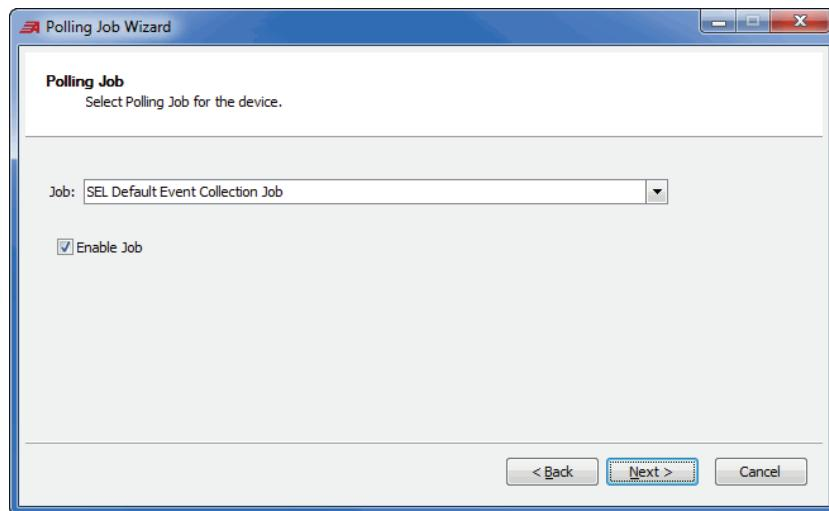

Figure 95 Polling Job Wizard
- Step 11. In the **Polling Job** window shown in *Figure 95*, select **SEL Default Event Collection Job** from the drop-down menu, and then select **Next**.